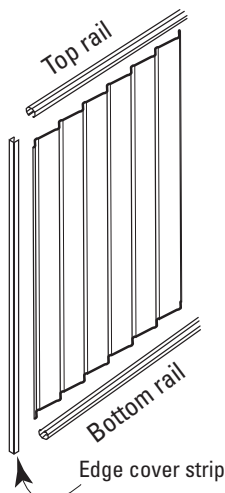

Figure 19.4
- 4) If required, fit edge cover strip to one side of the infill sheet for SMARTASCREEN gate only. (Figure 19.4)